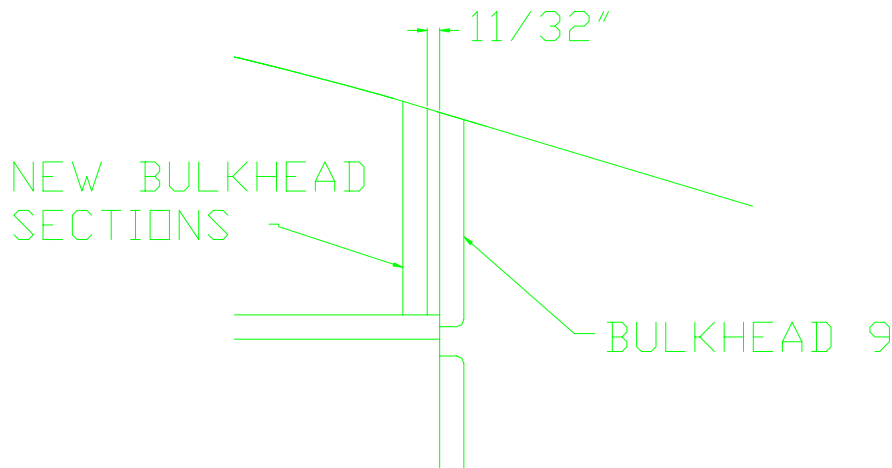

Figure 9.13.1
- 1) Cut two square bulkhead sections to fit in front of the bulkhead at station 9. The flange will face the front. Figure 9.13.1.